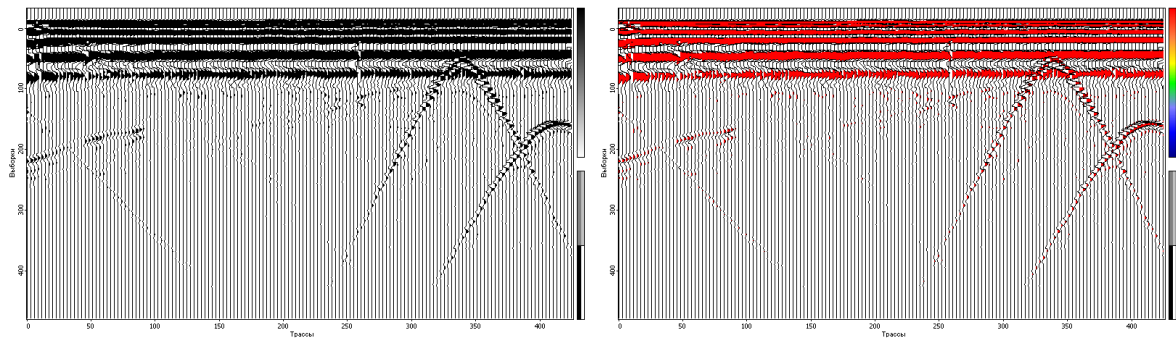

Fig. 4.2. Example of displaying the color profile (in black-and-white and color scales)
3. **Profile** – an aggregate of traces containing two-dimensional information on reflected signals received as a result of some routing. Profile can consist of any number of traces. Examples of a profile are shown on Fig. 4.2 and 4.3. The profile per say (or a number of profiles) in the form of a file (files) is the end result of the probing. After that follows processing (if necessary), printing (if necessary), and interpretation of data.
5. **Wiggle plot** – a type of imaging a profile where traces are set vertically at some distance from one another. Each trace is drawn as a curved line deflecting from the middle line to the left or to the right, depending on the value of the sample in each point of the trace. In addition, positive signal lobes are highlighted with the color corresponding to the maximum positive level of the chosen color scale. Examples of the wiggle plot are shown on Fig. 4.2.